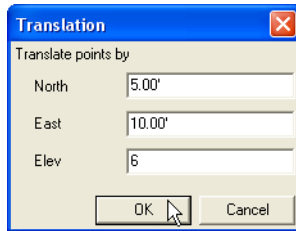

Figure 3-21. Enter XYZ Translation Values
- On the **Translation** dialog box, enter the desired *North*, *East*, and *Elev* translation values and click **OK** (Figure 3-21).